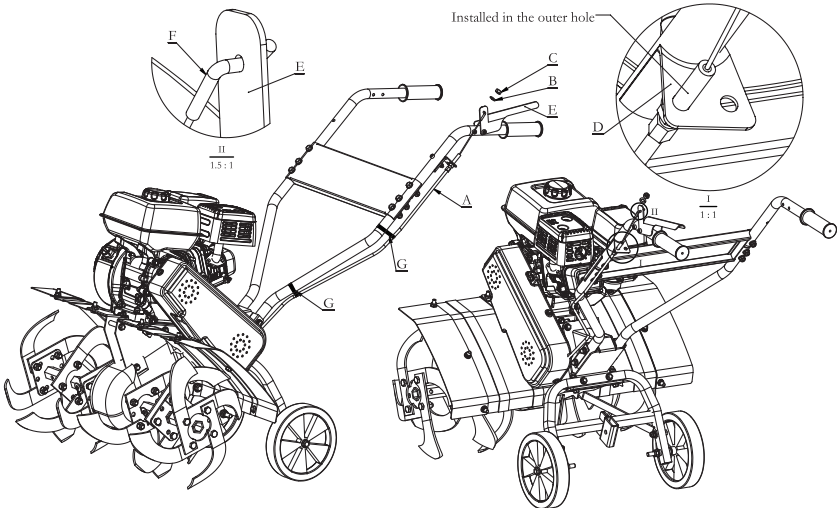

Fig. 9
Step 9 Assembly of the clutch cable (See Figure 9)
- Remove 1 M8 nut (C) and 1 $\phi 8$ flat washer (B) from the clutch cable (A). Leave another M8 nut (C) and flat washer (B) in place at cable, also slightly move nut downward for more space.
- Pass the clutch cable (A) through the outer hole of the fixing plate (D), remount the M8 nut (C) and $\phi 8$ flat washer (B).
- Insert the Z-end of cable (F) to the clutch handle (E).
- Adjust positions of the 2 M8 nut (C) to get a proper tensioning force for clutch cable.
- Use two fitting ties (G) to attach the clutch cable to the handle bar.